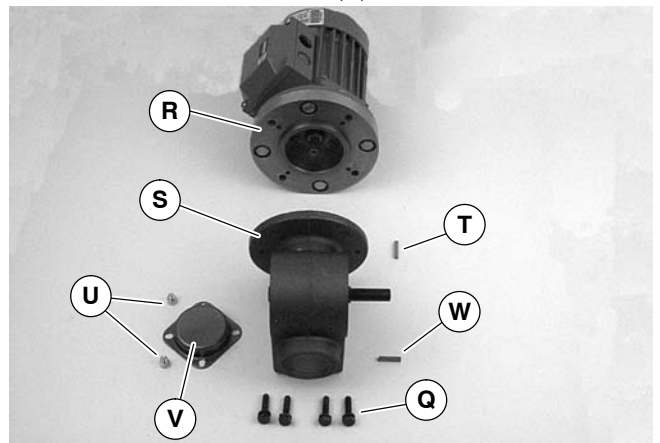

Figure 19
6. Remove four screws (Q of Figure 19). Detach motor with adapter flange (R) from gear reducer (S). Retain motor output shaft key (T).
12. With key (T of Figure 19) in keyway, slide motor with adapter flange (R) and gear reducer (S) together. Install screws (Q) and tighten.